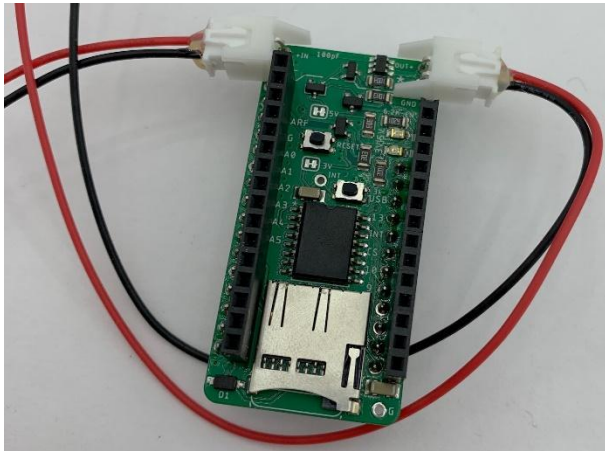

Figure 15: Fully assembled Hypnos showing correct wire positions.
5. Insert the JST plugs into the sockets. Verify the polarity matches the board for both: red wire at the end where the + symbols is on the board, black wire closer to the headers (Figure 15). If it does not match, use tweezers to gently pull up the plastic tabs holding the crimped connectors inside the case for each wire, pull out the wires, and insert on the appropriate side. Add hot glue to where the wires come out of the case to help hold in place.